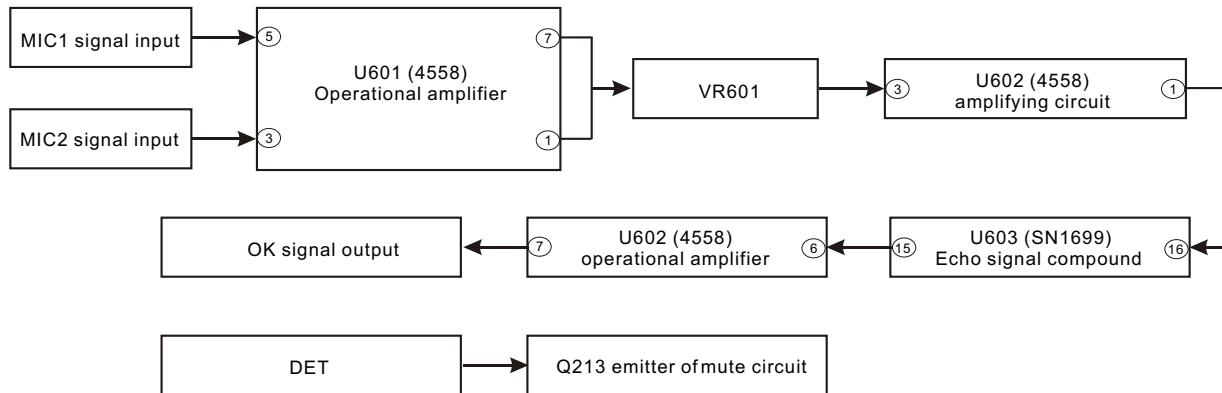

Figure 3.2.8.1 MIC circuit block diagram
1. MIC circuit block diagram is shown as the following figure 3.2.8.1: